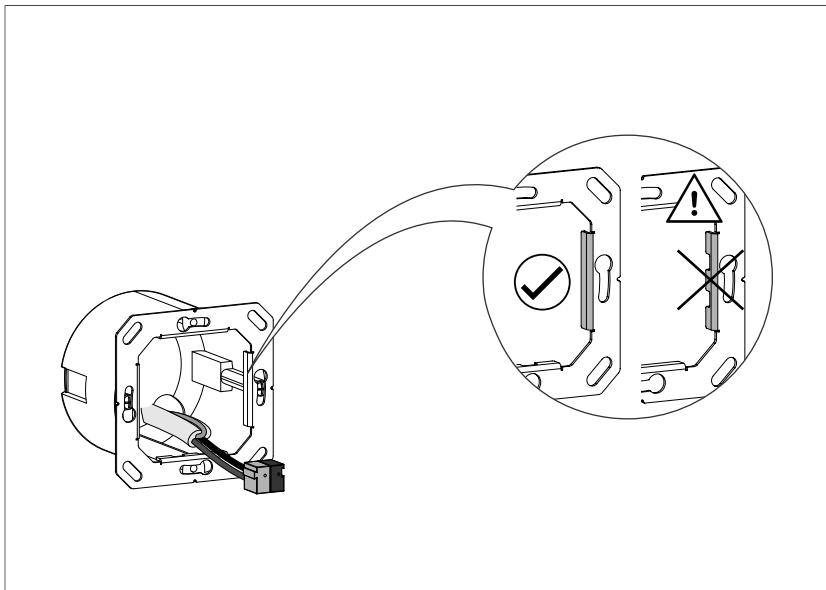

Fig. 3: Fitting the supporting ring
- Install the supporting ring in the correct position on a wall box (Fig. 3), observing the alignment of the detent on the supporting ring.